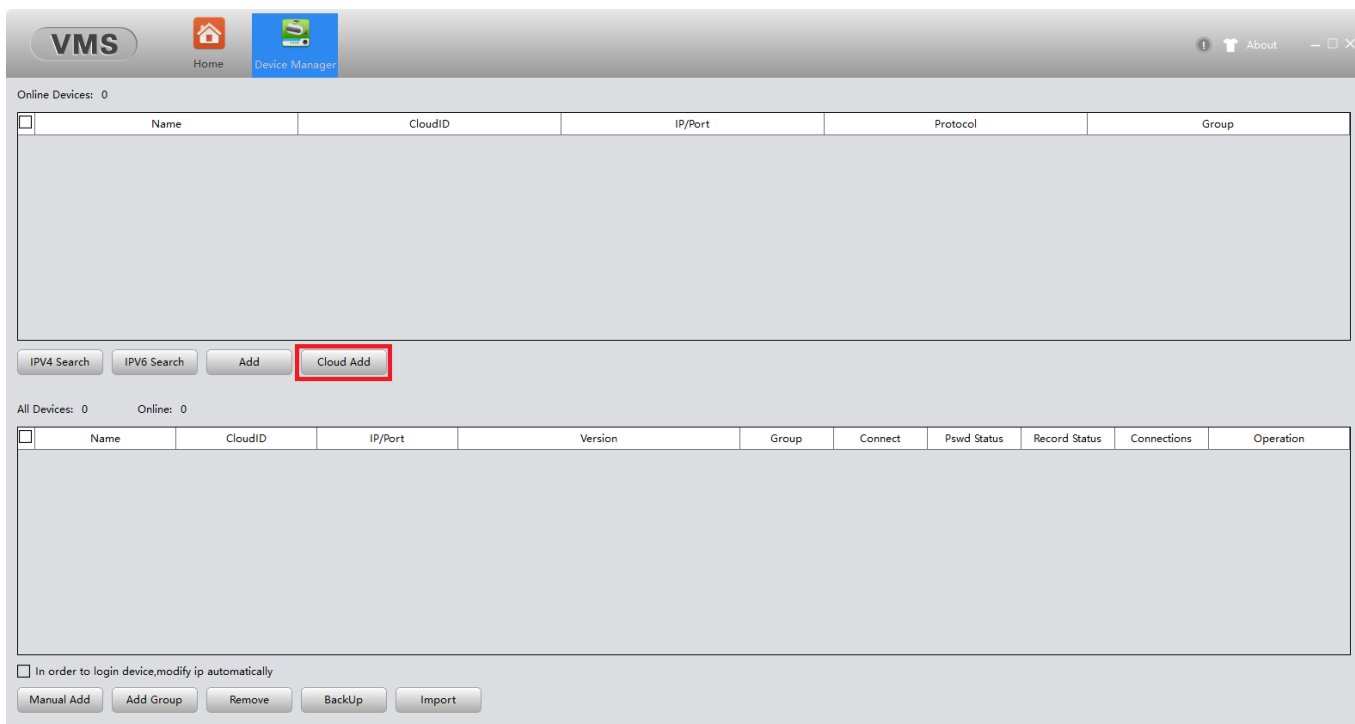

Figure 36. VMS software interface (Device Manager menu)
- Step 2: click “Cloud Add” (see Fig. 36);